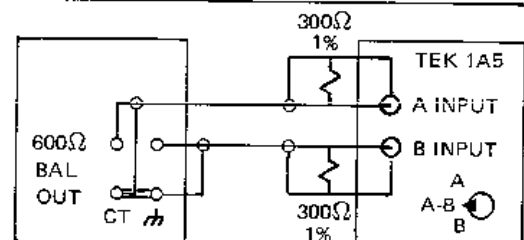

Figure 2-1. Test Set-up for 600 $\Omega$  BAL
13. Connect the 600 $\Omega$  balanced output connectors to a differential input oscilloscope (Tektronix 1A5 plug-in or equivalent) as shown in Figure 2-1.
When in the  $600\Omega$  balanced mode, the SYNC OUT connector must not be connected directly to an oscilloscope since the BNC shells are connected to one of the balanced output signals. Connecting directly to the scope without isolating with a pulse transformer will cause attenuator B (see Figure 2-1) to be shorted, thus, one-half of the output impedance ( $300\Omega$ ) will be lost. The amplitude will remain the same, but the result is a  $300\Omega$  single ended output.